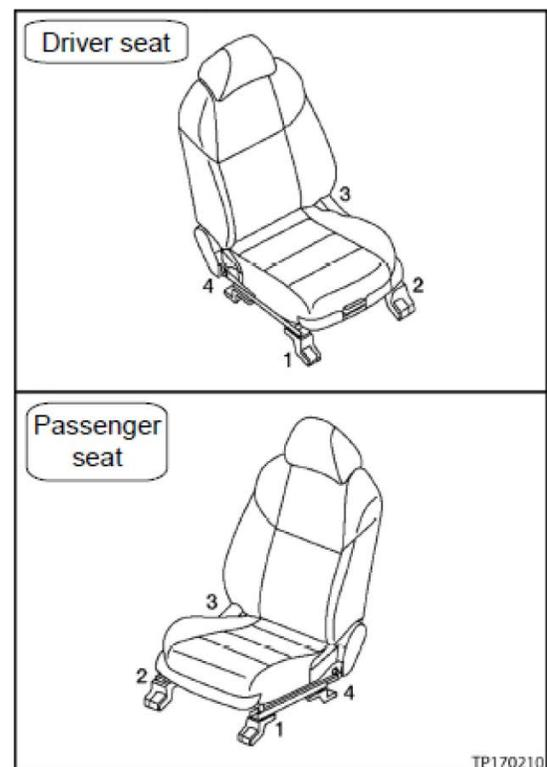

Figure 33
- Torque the seat bolts in the order shown in Figure 33).